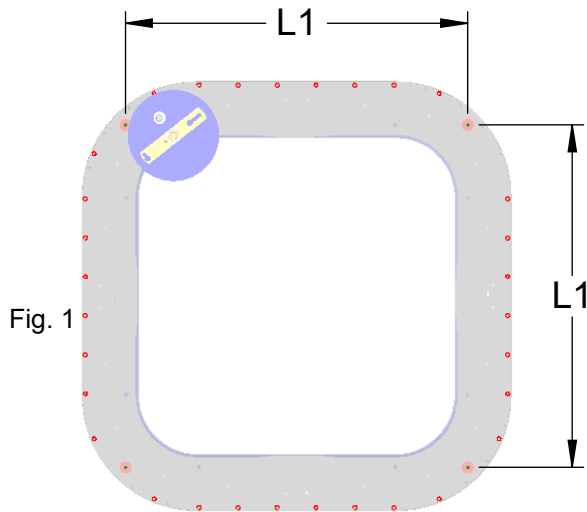

Fig. 1
1. Mount the couplers to the ceiling using appropriate fasteners (not included) according to the structure of the ceiling (see Fig. 1).